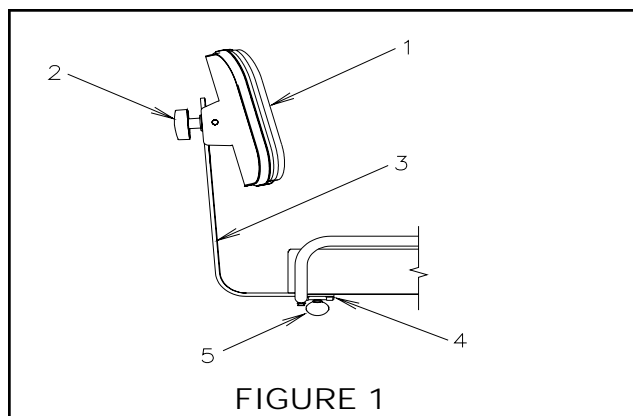

FIGURE 1
2.2.1. To assemble models with adjustable tilting backrests refer to Figure 1. Place the support bar (Item 3) into the back support mount (Item 4) and secure it with the thumb screw (Item 5).